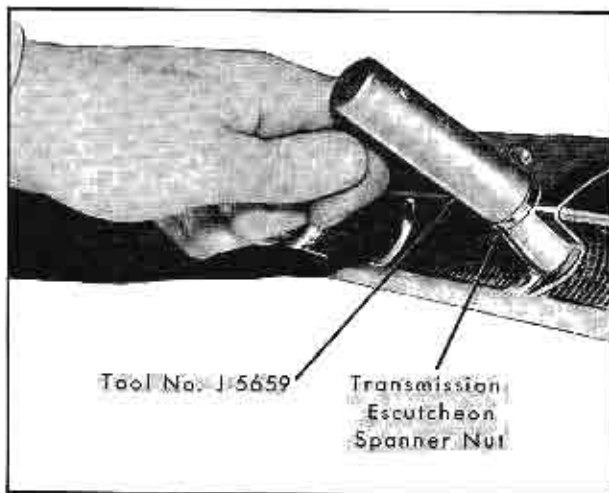

Fig. 3-5 Removing Transmission Escutcheon Spanner Nut
5. Remove transmission escutcheon spanner nut, Fig. 3-5, transmission escutcheon and reveal molding clip.